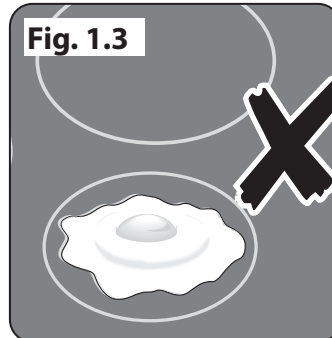

Fig. 1.3
- Only certain types of glass, glass-ceramic, earthenware or other glazed containers are suitable for hotplate cooking; others may break because of the sudden change in temperature. **NEVER** cook directly on the hob surface (**Fig. 1.3**).